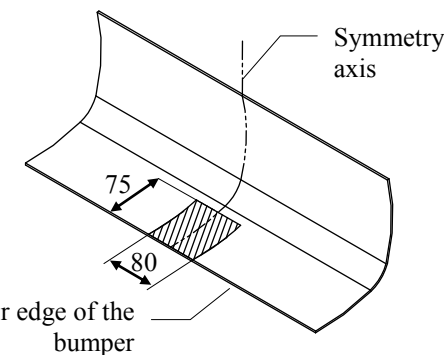

Fig. 3 Bumper cut out
8. Reassemble the bumper after cut out fragment as shown in fig. 3.